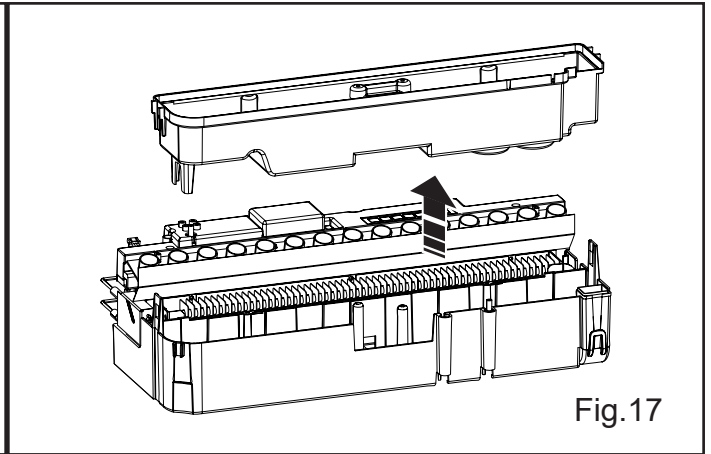

Fig.17
6. Gently lift up the sump (Fig.17), taking care to keep level so as not to spill any water. Sit the sump in the sink.